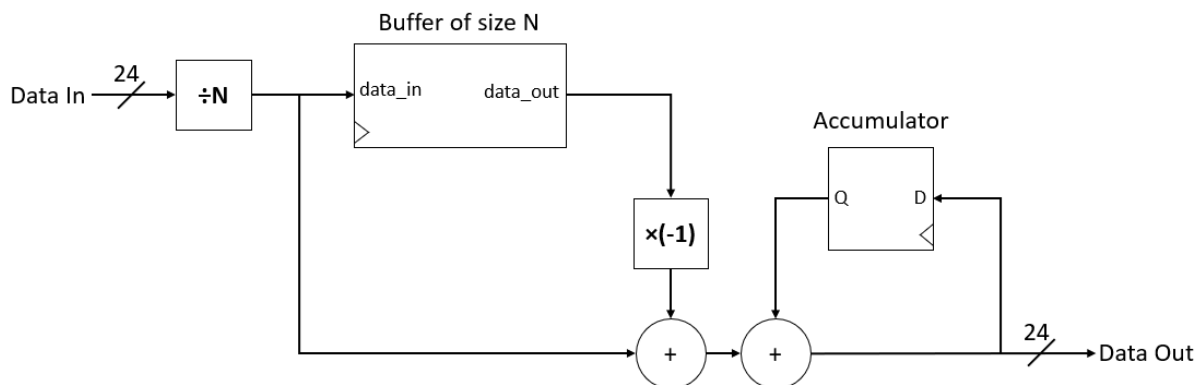

Figure 6: N -sample averaging FIR filter using a FIFO buffer and accumulator that you will implement in Task #3.
Figure 5: A Finite Impulse Response (FIR) filter that takes a moving average of 8 samples. While this is conceptually what we want to achieve in Task #3, we will use a different implementation, as shown in Figure 6.
However, we can achieve the same result using a FIFO buffer and accumulator (*i.e.*, a register whose input is the sum of the next incoming data value and its current stored value), as shown in Figure 6.
- Please pay attention to Figure 6 and make sure that you adding data_out multiplied by -1 instead of subtracting.
- The description below Figure 6 is accurate once the FIFO buffer is full. However, you should carefully consider what your buffer will do while the first $N-1$ samples are read (*i.e.*, at the beginning or after a reset) and make sure that the value of the accumulator also matches the buffer behavior during this time period.